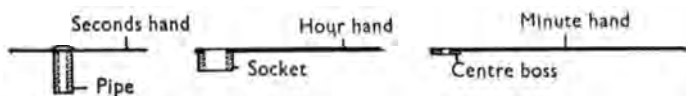

Fig. 27. Hands.
**Hands** (Fig. 27). All too often the fitting of hands receives insufficient attention. Badly fitted hands are a common cause of watch failure. They can cause a watch to function intermittently or to stop completely. If a watch with a loose fitting hand is subjected to slight shock, the hand can swing into a new position and register incorrectly.